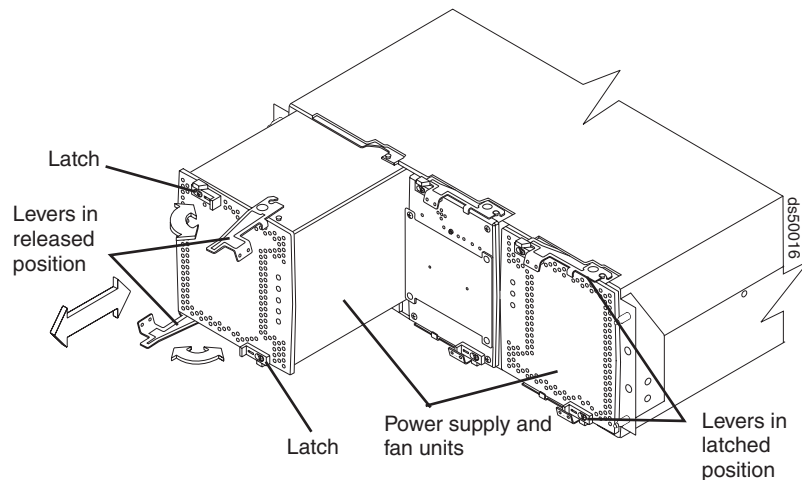

Figure 130. Removing a power supply and fan unit from the DS5100 or DS5300
9. Unlatch the top and bottom levers on the failed power supply and fan unit. Rotate both levers out simultaneously and remove the failed power supply and fan unit. (Figure 130 shows a power supply and fan unit sliding from the storage subsystem chassis.)